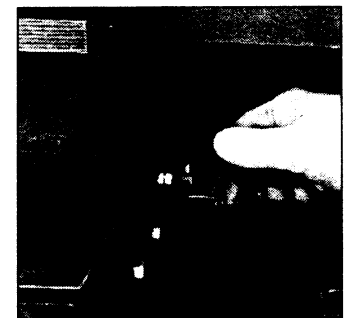

Figure 32
7. Reset the depth of cut by turning the cross feed handwheel to the reading obtained in "No. 6" above plus .003". Maximum depth of cut is .015" per pass. Lock the cross feed slide lock (**Figure 32**). This will keep the slide in a fixed position for an accurate machining job.